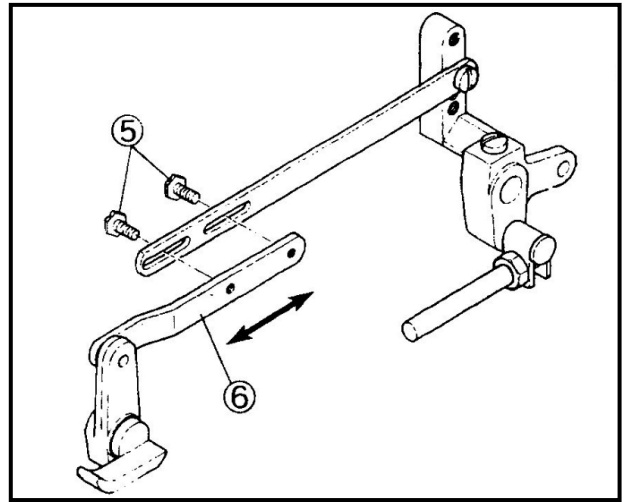

Fig.6
- (2) 放鬆壓腳連接桿螺絲⑤。(Fig.6)
- (3) 移開壓腳連接桿（短）⑥右邊或左邊去調整間隙。
- (2) Loosen the screw ⑤ of the presser foot lifter lever link (long). (Fig. 6)
- (3) Move the presser foot lifter lever link (short) ⑥ right or left to adjust the clearance.